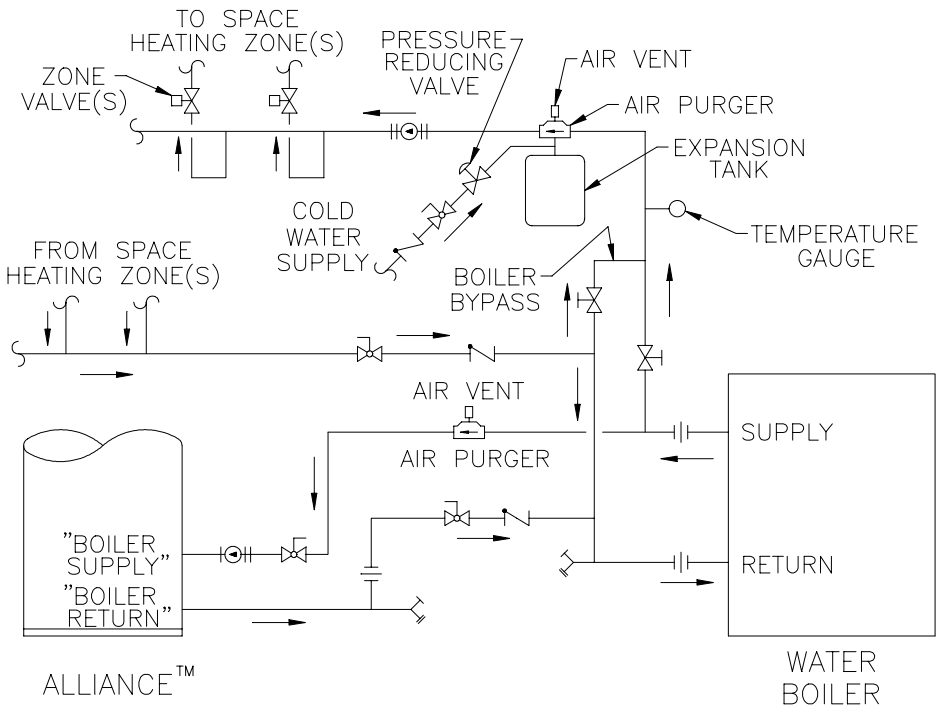

Figure 3: Water Boiler Piping with Zone Valves and a Boiler Bypass
3. **Hybrid** - The space heating zone can be zoned using zone valves and Alliance™ zoned with a circulator. Refer to Figures 3 and 5.
4. Purge air from domestic water system. Allow water to run so the tank is thoroughly purged of any debris. Run water long enough so that a minimum of five (5) volume changes of the tank are accomplished. Close faucets. Reinstall screens.
F. Connect water boiler return piping (See Figures 3 thru 6).
1. Determine where in the boiler and space heating piping system the Alliance™ connections should be made by identifying the type of system from Figures 3 thru 6.
G. Connect water boiler supply piping (See Figures 3 thru 6).
1. For a space heating system that utilizes ZONE VALVES AND A BOILER BYPASS, refer to Figure 3. The Alliance™ connection labeled "BOILER SUPPLY" should be piped to the boiler supply piping as close to the boiler as possible and especially before the bypass piping. Mount the circulator as close as possible to the water heater making sure the flow arrow points toward the water heater. The use of a shut-off valve is recommended for future service convenience. The use of an air purger and vent is recommended to eliminate air in the system during warmer periods when the space heating system is not operating. Otherwise, if air noises occur during summer months the space heating system would have to be operated to purge air at the main purger.